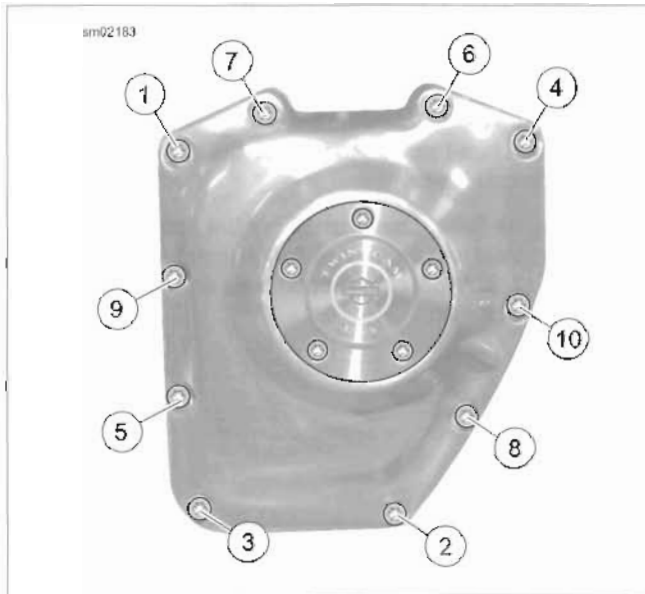

Figure 3-88. Cam Cover Screws
3. See Figure 3-88. Remove the socket head screws to release the cam cover. Remove and discard the cam cover gasket.